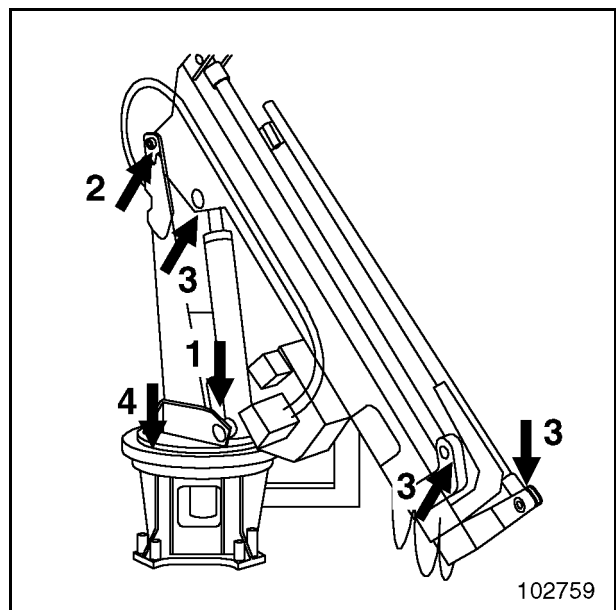

Fig. 3-151:
- Lubricate all bearings regularly and as required, and spray slewing ring with a graphite spray (Fig. 3-151:)